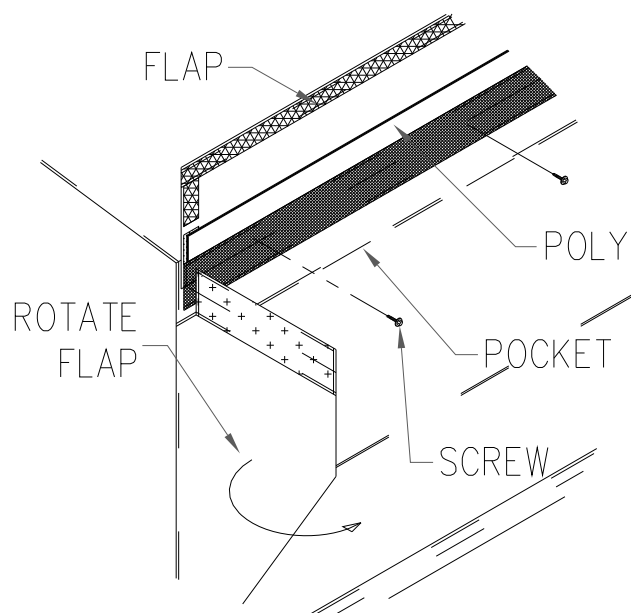

FIGURE 21
6. Flip the canopy endcaps back down and wrap the endcaps front flaps over the velcro on the weighted seal. Align the velcros top edges. Do not pull end cap around too hard. The outside edge of the front flap should be about 1/2"-1" away from sweep panels after they are installed. Do not attach front flaps at this point. (See Figure 21)